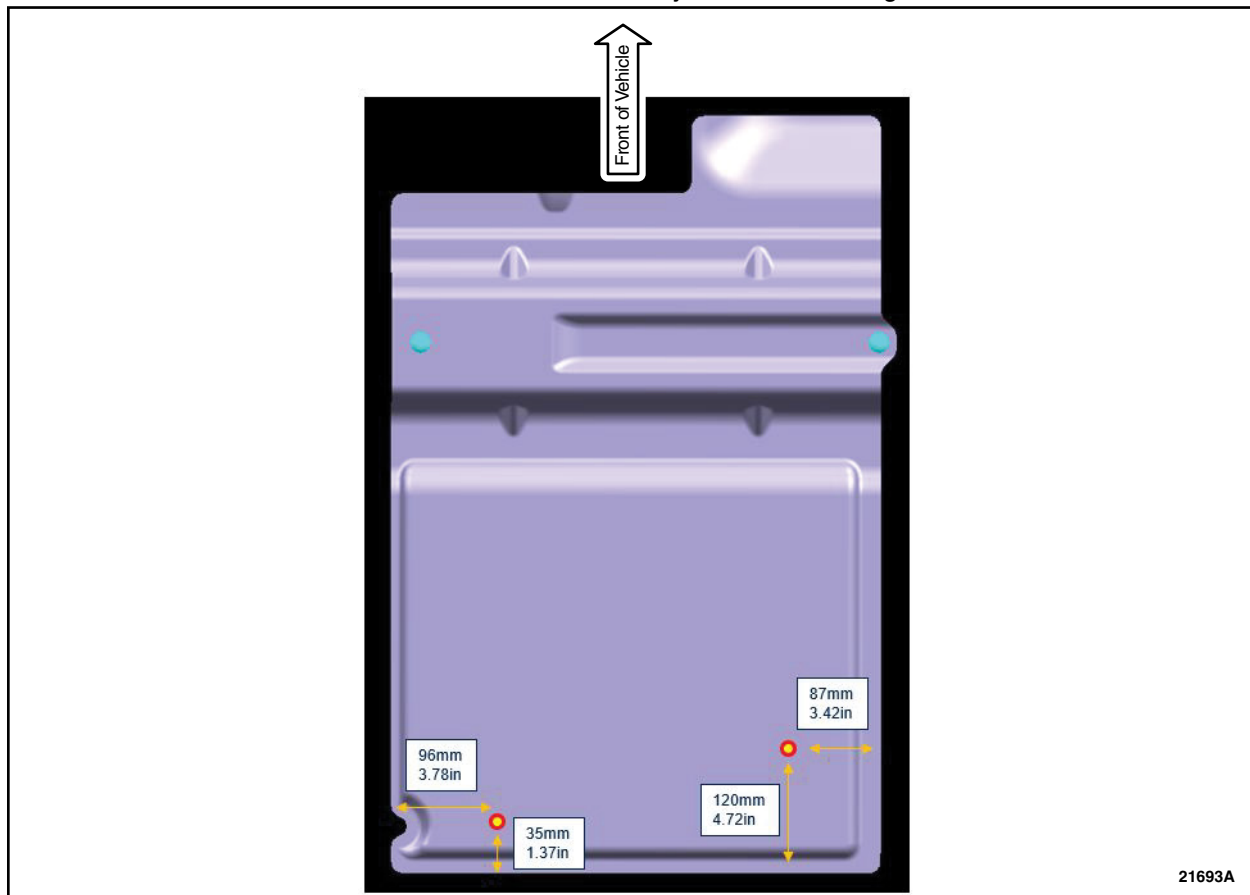

FIGURE 5
5. Measure and mark the two locations on the underbody insulator. See Figure 5.